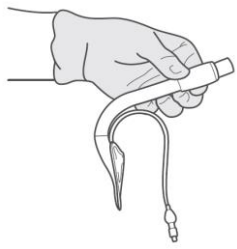

Figure 5: Hold the device in position
2. Hold the device in position. (Fig. 5)